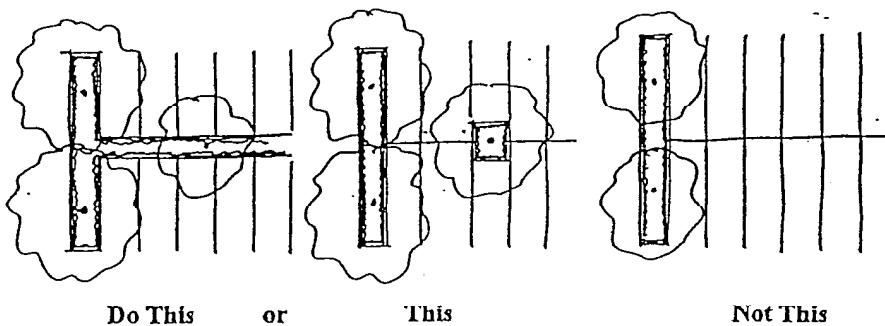

Figure 31
- ☐ Plant trees in islands between parking rows rather than only at the end of rows. Provide a minimum planting width of 4 feet (Figure 31).